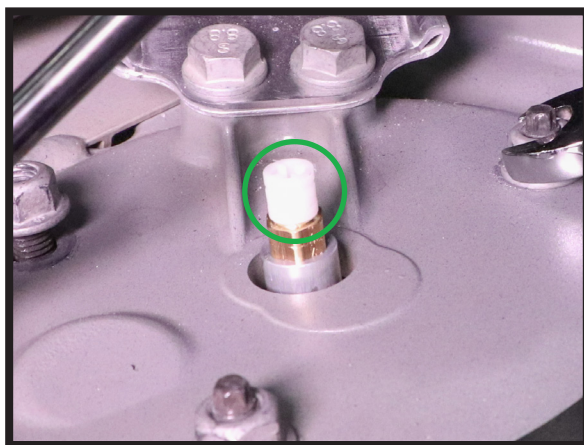

FIGURE 20
5. REMOVE WHITE SHIPPING PIN FROM THE STRUT'S AIR FITTING. (FIGURE 20)